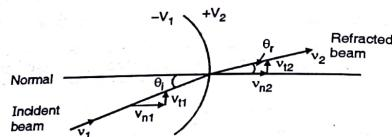

Fig. 7.7.2 : Refraction of a beam
- In Fig. 7.7.2, we have an equipotential surface. It is considered as a boundary across which the potential  $V_1$  abruptly changes to potential  $V_2$ .
From Fig. 7.7.2